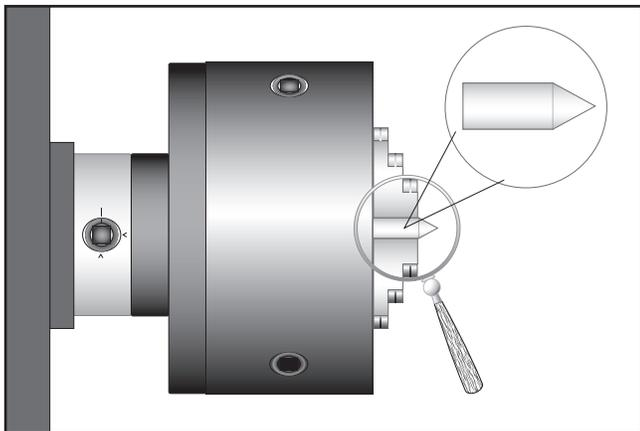

Figure 41. Turning a dead center.
3. Use the other piece of round stock to make a dead center, and turn it to a 60° point, as illustrated in **Figure 41**.